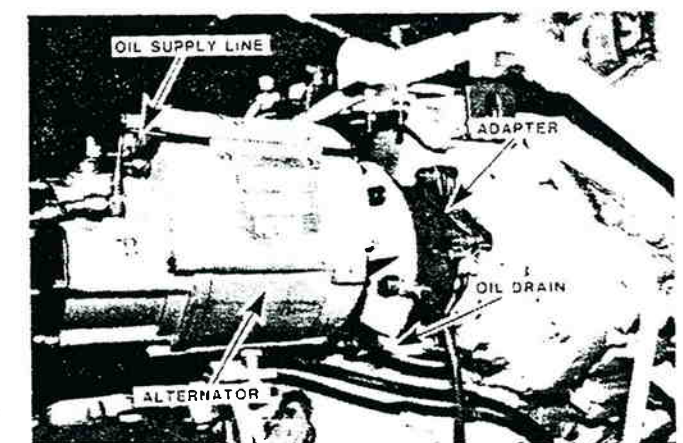

Figure 7-10. Alternator With Adapter.
2. Disconnect oil supply lines at the diode end frame. If alternator has an oil drain tube, disconnect it at the engine. Refer to figures 7-10 and 7-11.